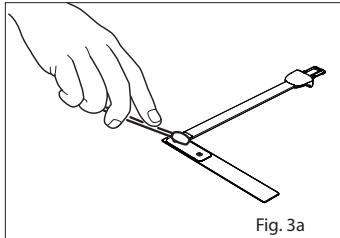

Fig. 3a
- Refer to Fig. 3a. For fragile skin, the stickiness of the medical grade adhesive can be diminished or eliminated by daubing the adhesive areas with a cotton ball or gauze.